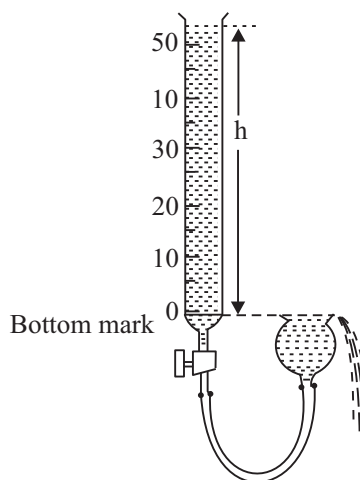

Fig. 9.1
(Fig 9.1), and hence to volume of water in the burette above the bottom mark. Thus, the fractional rate of flow:
- (i) After setting up the apparatus as described above, you already have water in the burette upto the bottom mark and in the thistle funnel. Close the stopper and fill water in the burette upto a little above its upper mark (Fig. 9.1).